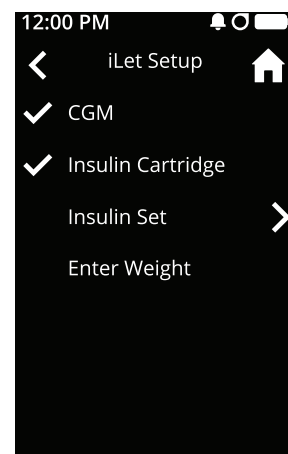

Figure 67
- e. When you are done changing your insulin cartridge, the Insulin Cartridge row will be checked off (see Figure 67) and the iLet Device will ask you if you need to change your insulin set. Tap **Yes** to proceed to placing your new infusion set.